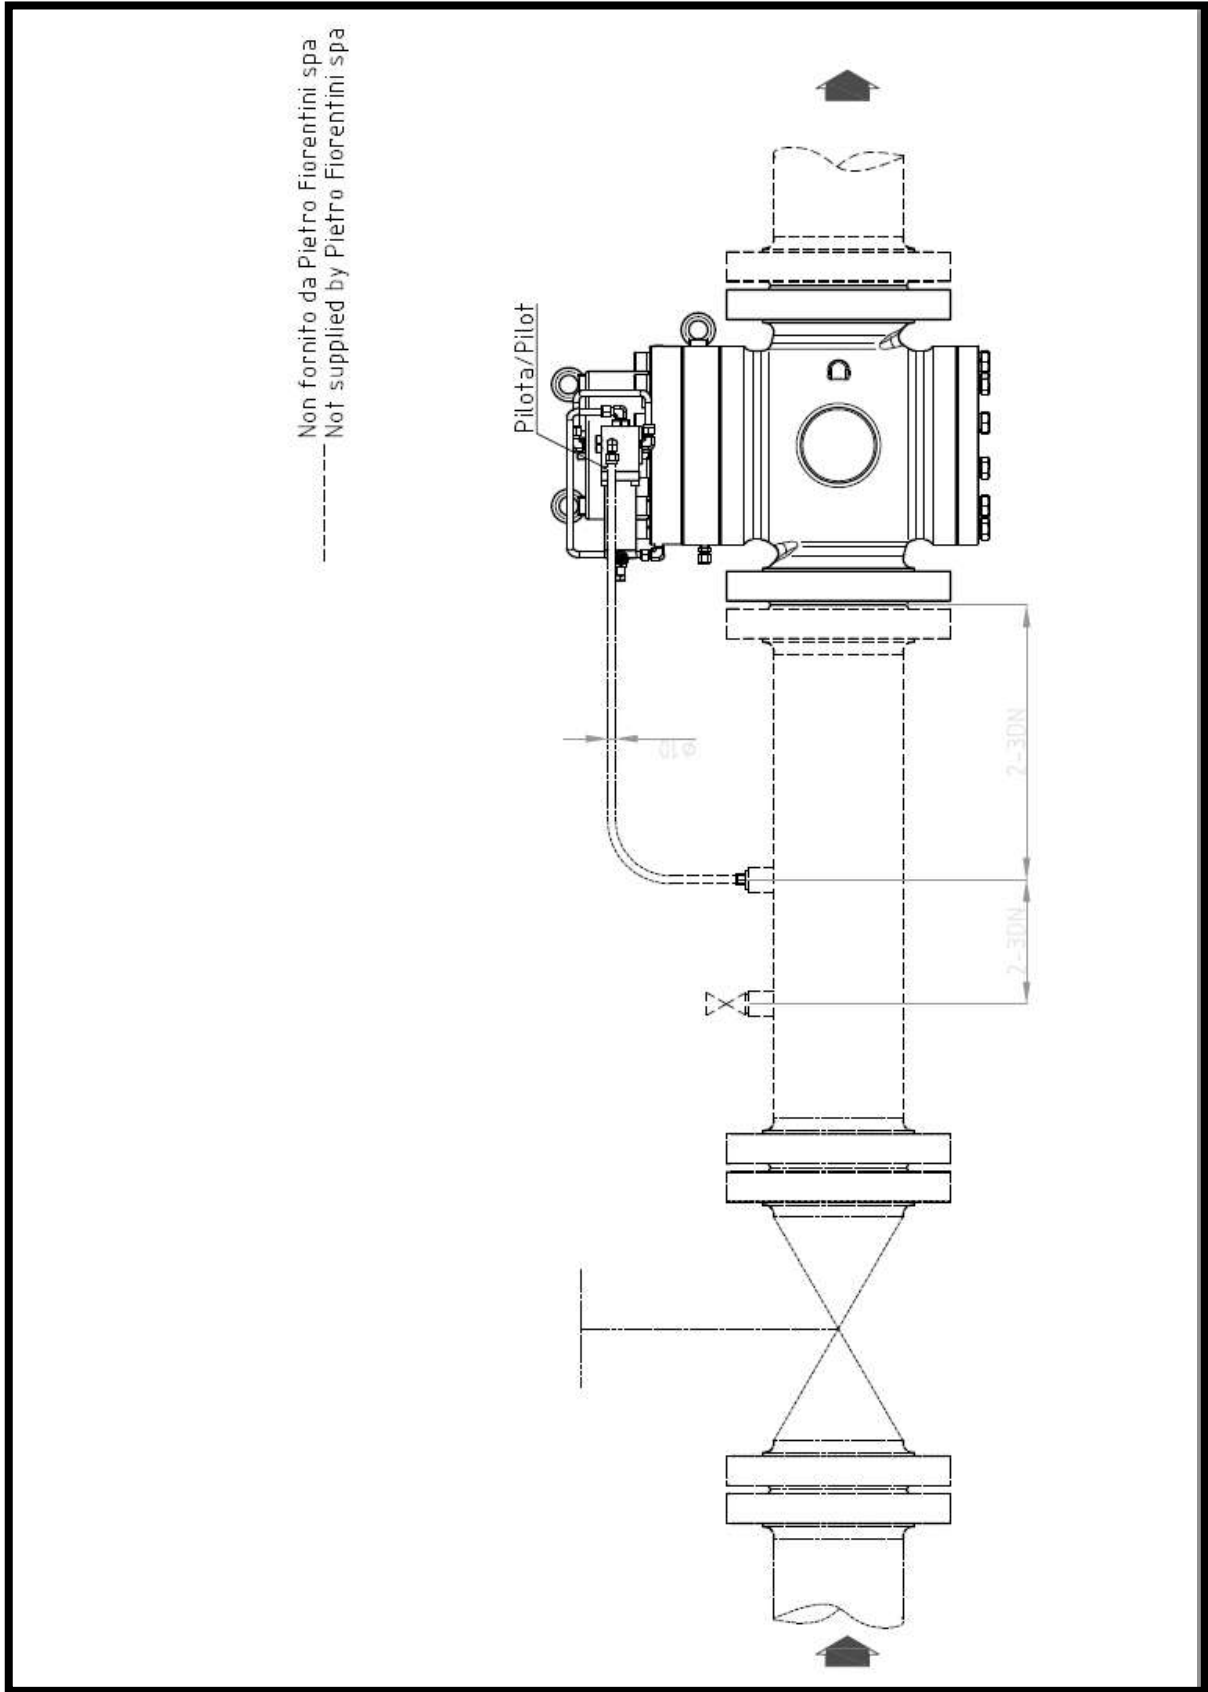

Figure 4
The valve may be mounted either with a vertical or horizontal flow direction. For installation refer to figures 4 and 5.
3.4 COMMISSIONING (FIG. 4)